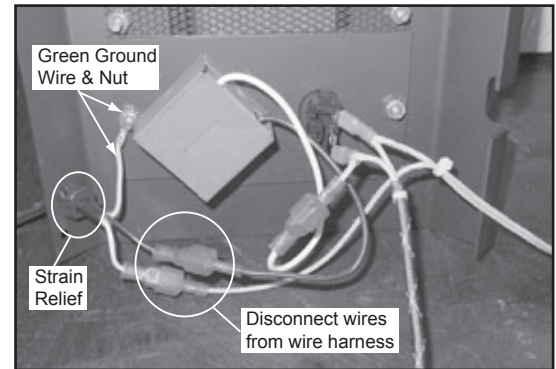

Figure 22.1
1. Remove the green ground terminal from the stud and unhook the neutral (white) and line power wires from the rest of the harness (**Figure 22.1**).